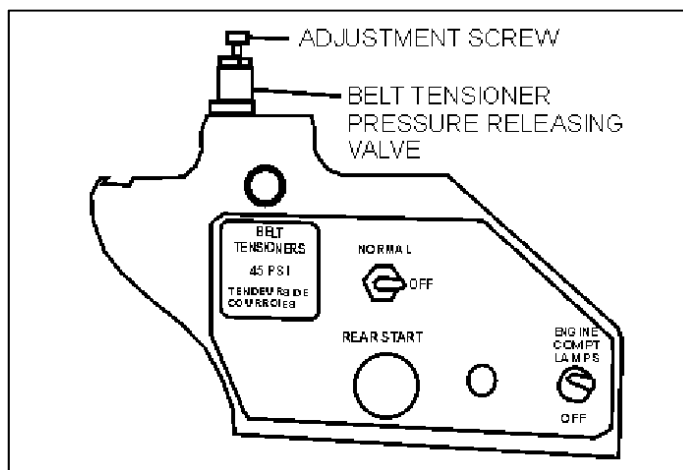

Figure 2
2. Locate the belt tensioner pressure releasing valve (Figure 2), mounted above the engine R.H. side door next to the air pressure regulator, then turn handle clockwise in order to release pressure and tension on belts.
11. Turn handle counter -- on the belt tensioner pressure releasing valve (Fig. 2) to restore pressure and tension on belts.